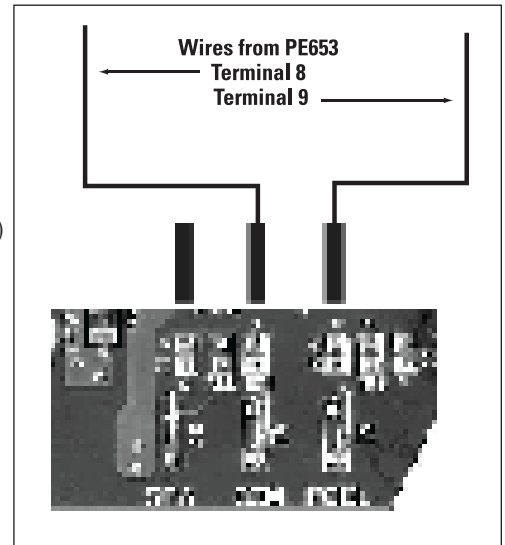

Figure 3-32 — DDTC Control Board
6. Connect the wire lead from PR653 terminal 8 to the "COM" terminal on the DDTC board. (see figure 3-32)